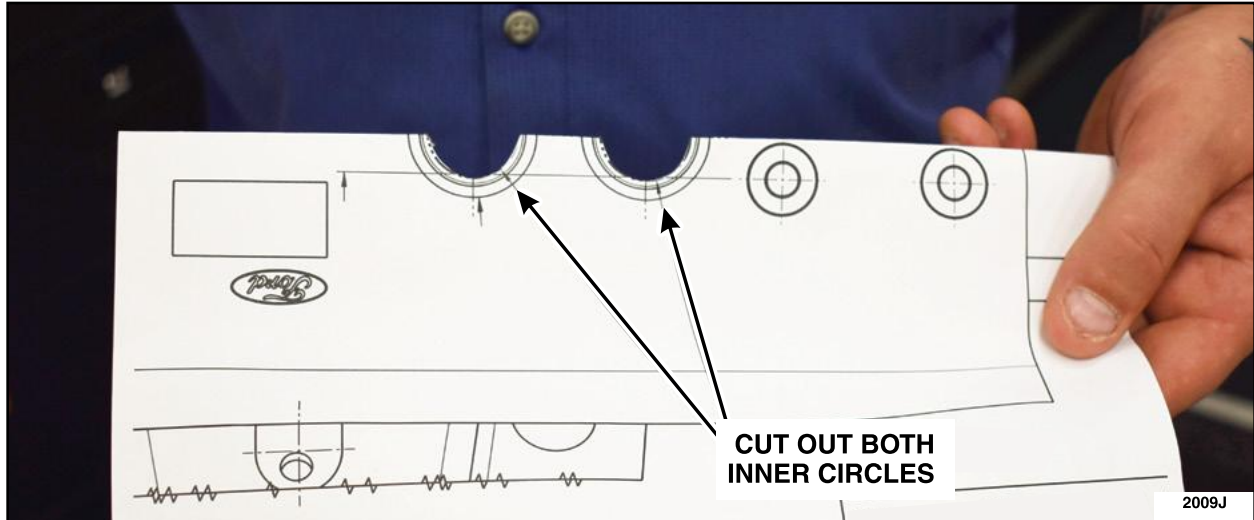

FIGURE 3
3. Cut out the two (2) larger rivet heads on the template, cut out the inner most circle by slightly folding the template at the center line of the larger circles and cut out the half moon shape. See Figure 3.